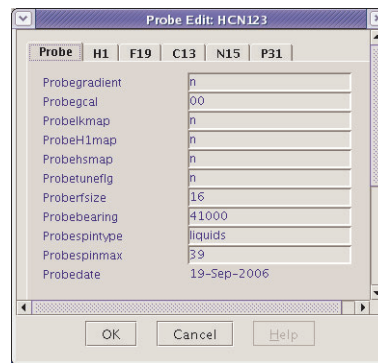

Figure 16. Probe File Edit Window
4. Click to check the **Edit** button — editing options appear in the Probe window, see Figure 16.